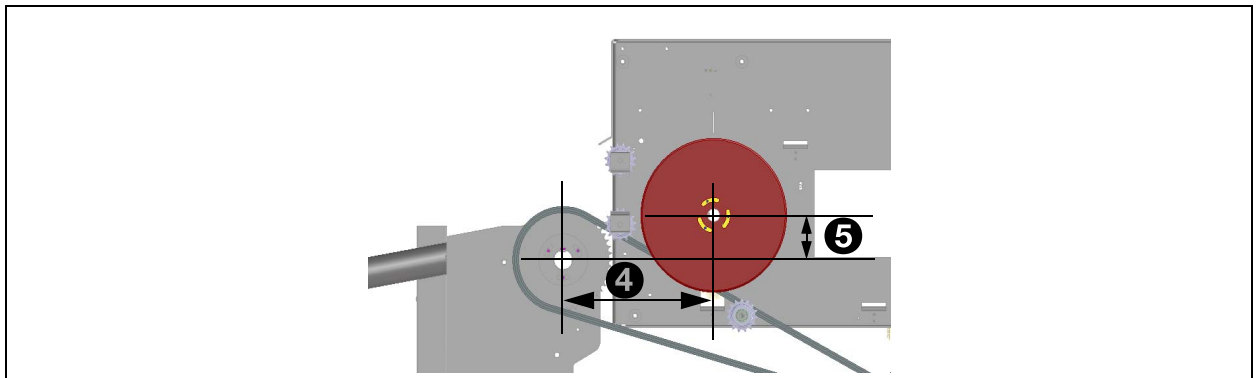

Fig. 85 - Adjustment dimensions shaft
1. Adjust the distance and the height of the shafts of the infeed unit (1) and loadcell-unit (2) with the dimensions (4) 278.8 - 279 mm and (5) 87 mm. See fig. 85.